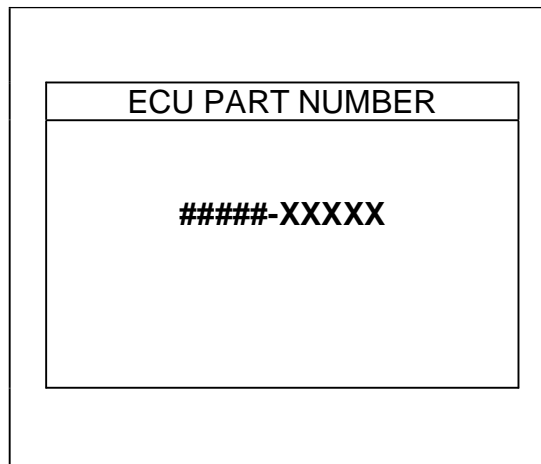

Figure 1
- Figure 1 is an example of the Part Number (P/N) printout.
3. Check the TCM P/N on the printout from step 1 (Figure 1):